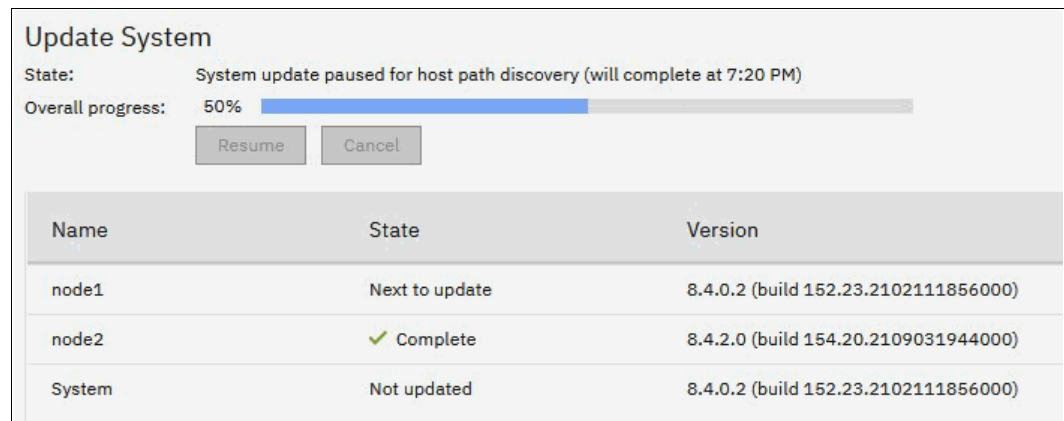

Figure 13-23 Update process paused for host path recovery
- The system begins updating the IBM Spectrum Virtualize Software by taking one node offline and installing the new code. This process takes approximately 20 minutes. After the node returns from the update, it is listed as complete, as shown in Figure 13-23.